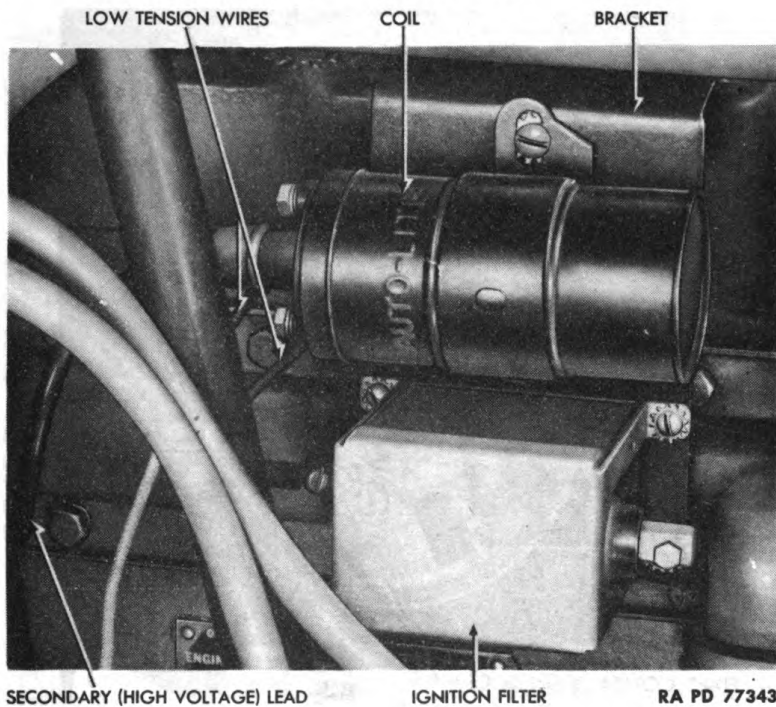

Figure 49 – Ignition Coil Installed
(1) **DESCRIPTION** (fig. 49). The ignition coil is mounted on a bracket which is attached to the left side of the engine near the rear of the front cylinder head. It may be reached through the left-hand cab skirt opening. Its function is to "step up" voltage for ignition.
(2) TABULATED DATA.
(2) **DISCONNECT WIRING** (fig. 49). Pull high-tension wire from tower on end of coil. Remove both nuts and lock washers from low-tension terminals on end of coil. Lift one wire from each terminal. Tag wires to aid in correct assembly.
(3) **REMOVE COIL FROM BRACKET** (fig. 49). Remove the two screws and lock washers which attach coil to bracket. Lift coil from bracket.
(1) ATTACH COIL TO BRACKET (fig. 49). Place coil in position on its bracket and install two lock washers and screws.
(2) CONNECT WIRING (fig. 49). Place low-tension wire from distributor onto coil low-tension terminal marked "+". Place wire from filter (square metal box immediately below coil) on coil low-tension terminal marked "-". Install both lock washers and nuts on coil low-tension terminals. Plug high-tension wire from center tower of distributor into tower on coil.